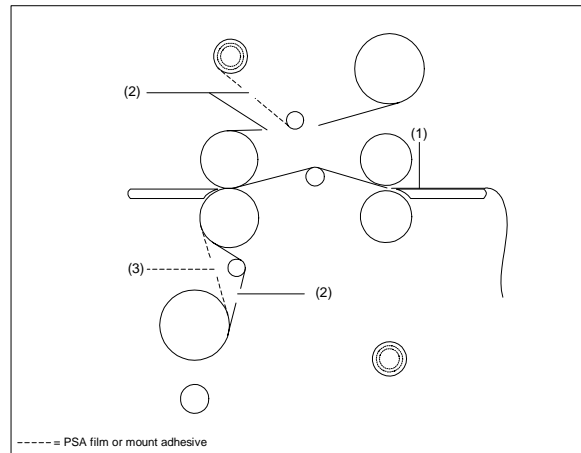

Figure 28
1. Using the rear slit, cut (1) the output from the web (Fig. 28).
2. Cut (2) remaining top film web between the idler bar and heat roller. PSA film cut the release liner too.
3. Cut (3) the film web between the lower film supply and the idler bar (Fig. 28).